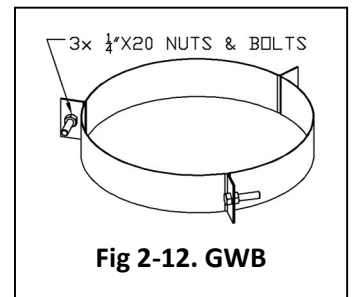

Fig 2-12. GWB
The Guy Wires Band permits easy connection for three (3) guy wires at 120 degrees apart. The band firmly clamps around the pipe outer jacket and includes three (3) 1/4" x 20 stainless steel nuts and bolts. See Fig 2-12.